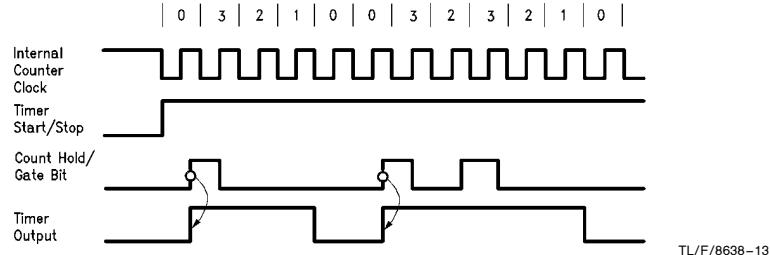

FIGURE 11. Timing Waveforms for Timer Mode 3, Output Programmed Active High
This mode is different from the previous three modes in that this is the only mode which uses the external gate to trigger the output. Once the timer Start/Stop bit is set the output stays inactive, and nothing happens until a positive transition is received on the G1 or G0 pins, or the Count Hold/Gate (CHG) bit is set in the timer control register. When a transition occurs the one shot output is set active immediately; the counter is loaded with the value in the input register on the next transition of the input clock and the countdown begins. If a retrigger occurs, regardless of the current counter value, the counters will be reloaded with the value in the input register and the counter will be restarted without changing the output state. See *Figure 11*. A trigger count can occur at any time during the count cycle and can be a hardware or software signal (G0, G1 or CHG). In this mode the timer will output a single pulse whose width is determined by the value in the input data register (N) and the input clock period.